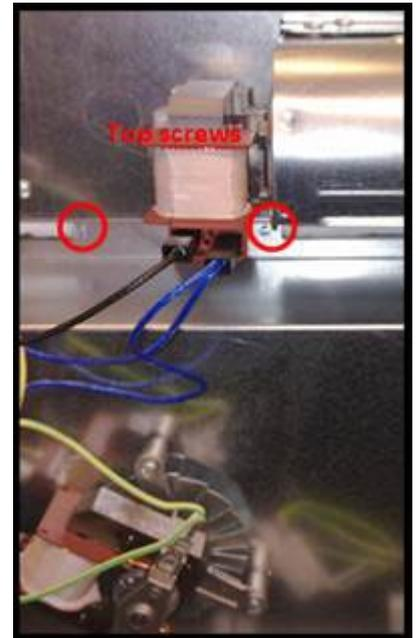

Figure 2
4. Remove the probe from its location using a clamp make rounded the border to extract it. (fig.2).